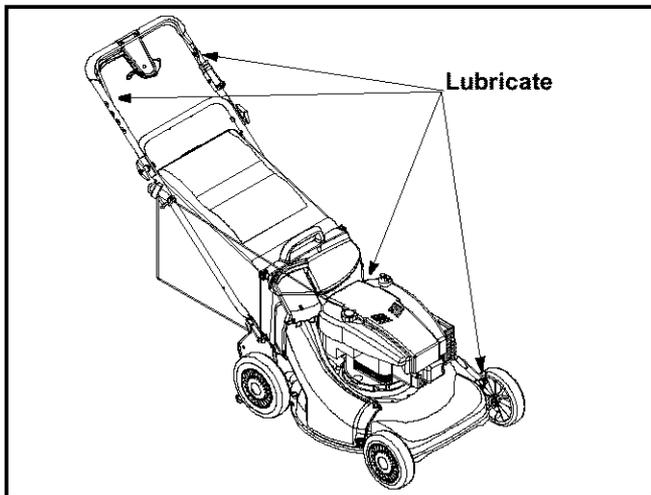

Figure 15
**Blade Control:** Lubricate the pivot points on the blade control handle at least once a season with light oil. The blade control must operate freely in both directions. See Figure 15.
**Wheels:** Lubricate the wheels at least once a season with light oil (or motor oil). If the wheels are removed for any reason, lubricate the surface of the axle bolt and inner surface of the wheel with light oil. See Figure 15.